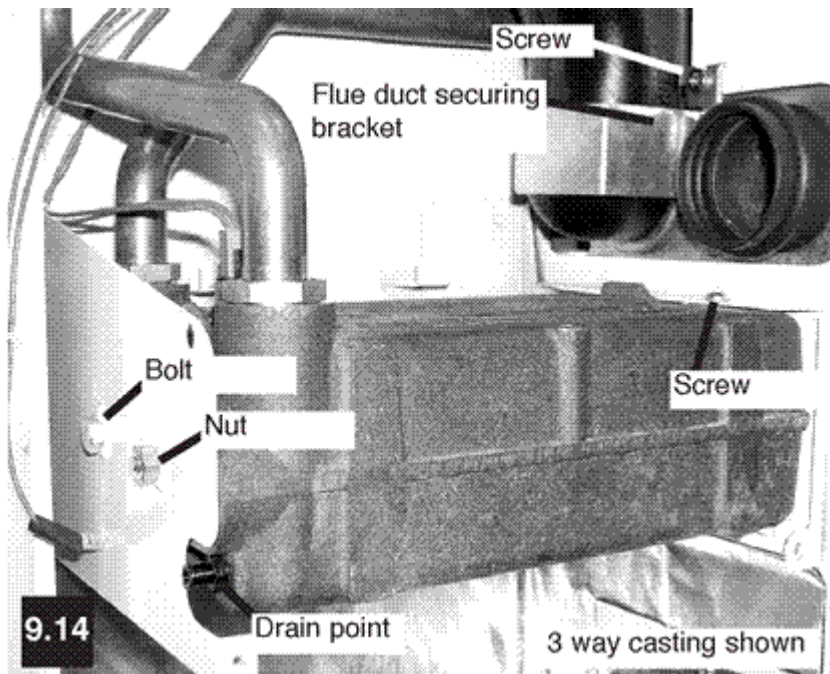

Fig. 42
5. Remove the screw securing the flue duct mounting bracket to the inner case and remove the bracket - See Fig. 42.